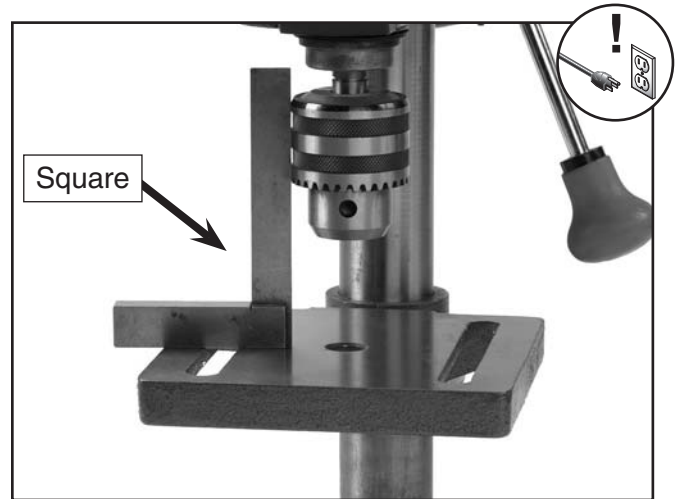

Figure 18. Squaring table to head.
2. Place a machinist square on the table and make sure it is snug against the chuck, as shown in **Figure 18**.